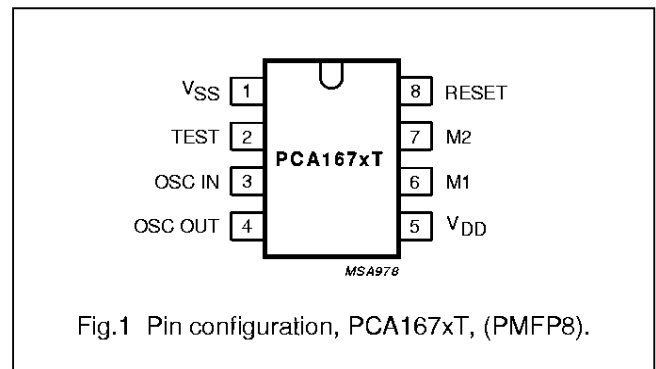

Fig.1 Pin configuration, PCA167xT, (PMFP8).
1. Figure 1 and Chapter “Package outline” show details of standard package, available for large orders only. Chapter “Chip dimensions and bonding pad locations” shows exact pad locations for other delivery formats.